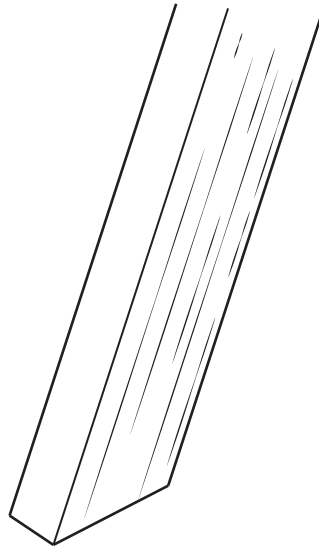

Fig. 11.2
(c) Fig. 11.2 shows part of one leg.
- (i) Draw on Fig. 11.2 to show a through housing joint that could be used to join the step to the leg. [3]